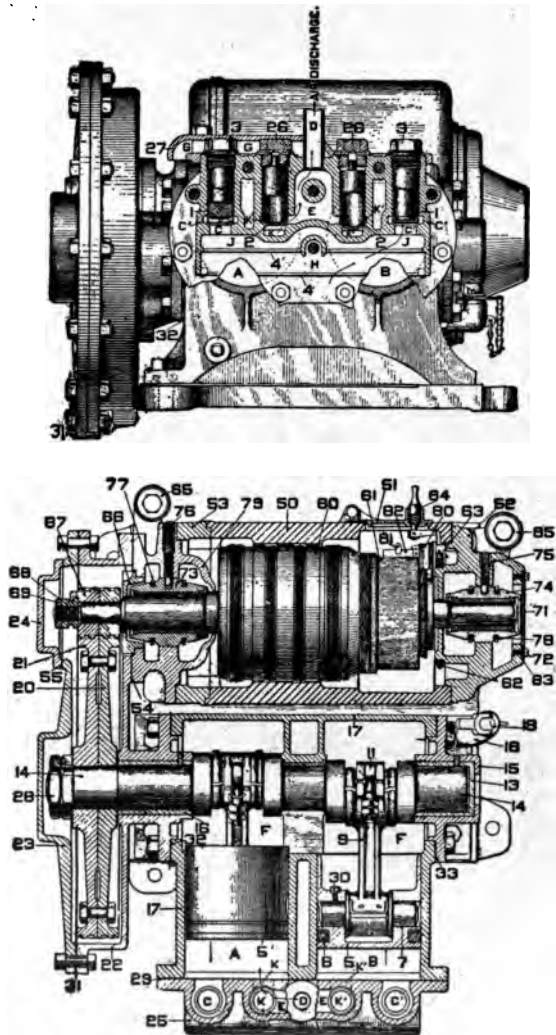

Fig. 526. Air Compressor on Motor Cars.
*Answer.* The crank case is filled with oil (preferably Arctic Ammonia Oil) up to a point determined by the oil fitting 18, Fig. 526, on the side of crank case. When the level of the oil is visible in this fitting, the cap being removed, the oil level in the crank case is correct. As
*Answer.* By removing plug 65 (Fig. 526) in both end bearing housings and filling with oil until the level can be plainly seen. These bearings should be replenished at the same time as the crank case.